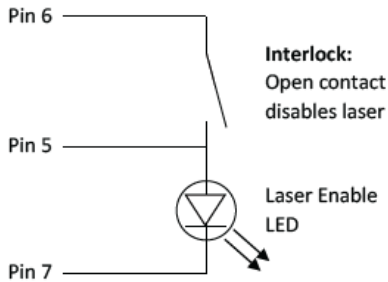

Figure 5-1
- Pin 6 and Pin 5. This is the main interlock connection, and this connection is required for the system to be operated. Should the closed loop become broken, the laser will be deactivated, and laser emission will cease [Fig 5-1].
- Pin 5 and Pin 7. This is the laser emission indicator line. It is recommended that this is connected to a LED which will be lit if the laser is enabled (switched on) [Fig 5-1].
Diagrams of the 9-way D-type interlock connector are shown in figures 5-1, 5-2 and 5-3.